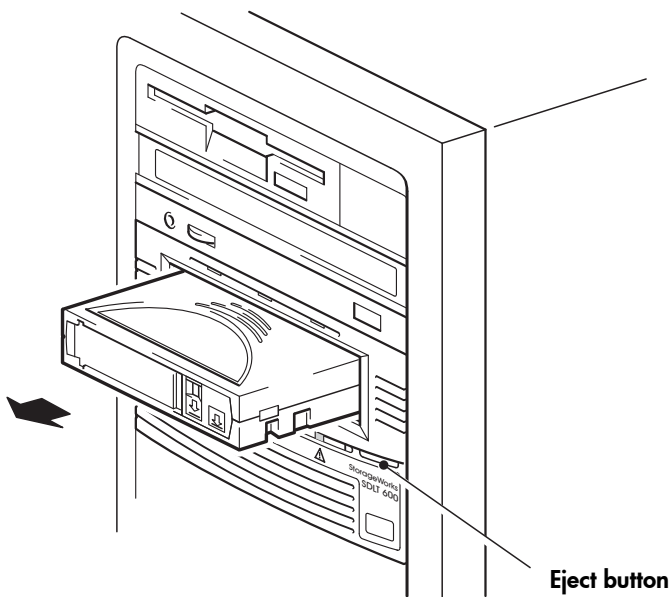

Figure 9b: unloading a cartridge
- 1 Press the Eject button on the front panel. (See Figure 9b.)